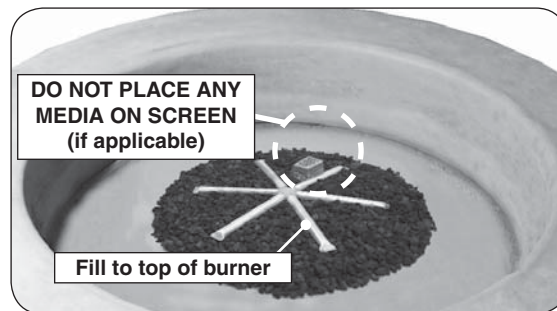
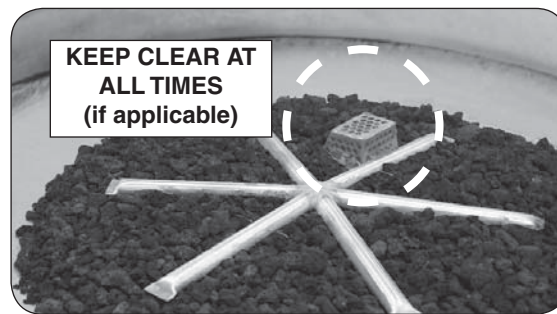

Fig. 32-1 Place lava granules
Fig. 32-2 Screen detail (if applicable)
1. Pour the 10 lb bag of lava granules into the burner area (with the exception of the screen - if applicable). Spread the granules within the burner area as shown in Fig. 32-1 and Fig. 32-2. **Only fill the granules up to the top of the burner tube.**